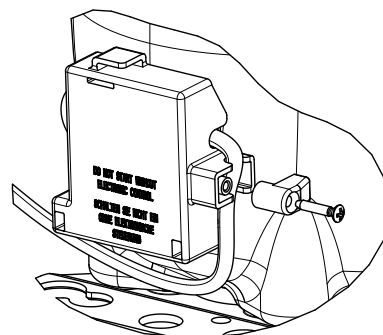

Figure 3.5: Step 4
- The screws shown in Figure 3.5 must be fixed with a torque within 0.8 – 1.2 Nm range.